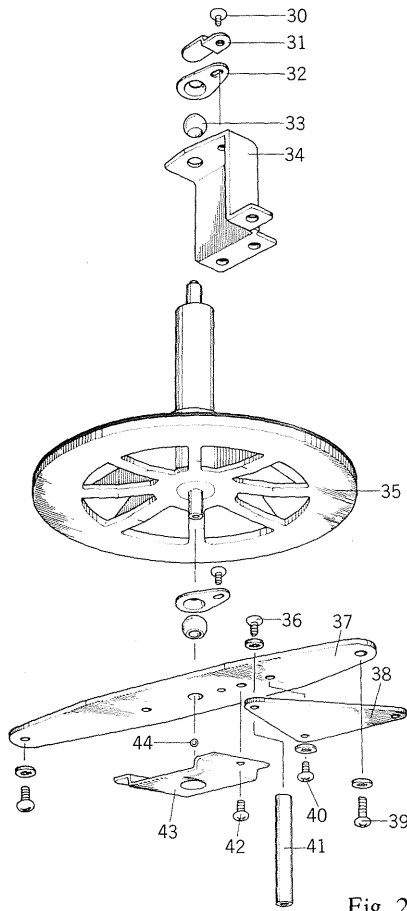

Fig. 2
5. ADJUSTMENT OF FLYWHEEL (RUBBER-WHEEL) GAP (Fig. 2)